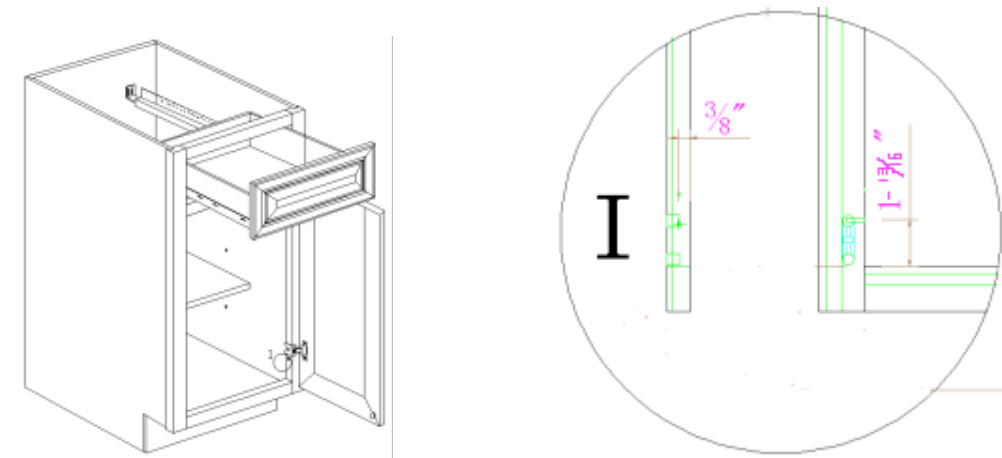

Figure 3
4. Install the guide on the frame with the screw. The screws fix location as below right drawing **Figure 3**